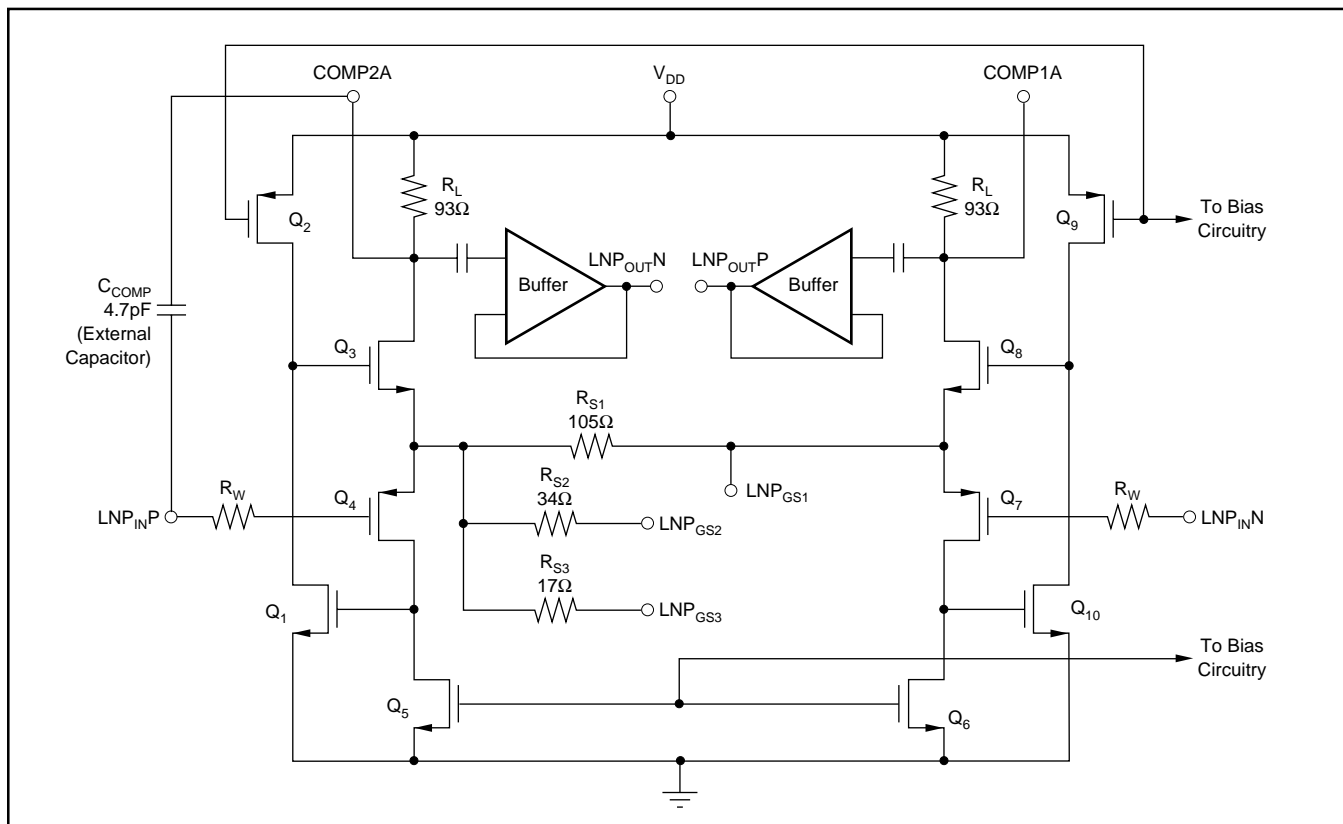
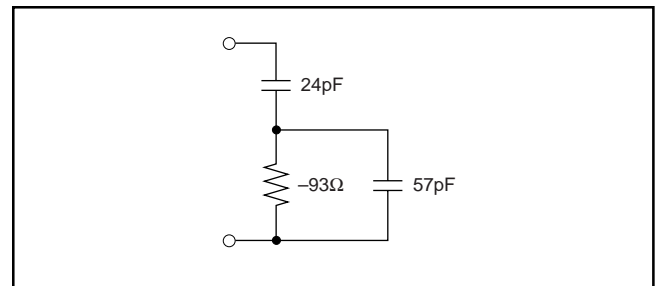

FIGURE 4. Schematic of the Low Noise Pre-amplifier (LNP).
FIGURE 11. VCA2613 Input Impedance.
The LNP is designed to achieve a low noise figure, especially when employing active termination. Figure 4 is a simplified schematic of the LNP, illustrating the differential input and output capability. The input stage employs low resistance local feedback to achieve stable low noise, low distortion performance with very high input impedance. Normally, low noise circuits exhibit high power consumption due to the large bias currents required in both input and output stages. The LNP uses a patented technique that combines the input and output stages such that they share the same bias current. Transistors Q₄ and Q₅ amplify the signal at the gate-source input of Q₄, the +IN side of the LNP. The signal is further amplified by the Q₁ and Q₂ stage, and then by the final Q₃ and R_L gain stage, which uses the same bias current as the input devices Q₄ and Q₅. Devices Q₆ through Q₁₀ play the same role for signals on the -IN side.
It is also possible to create other gain settings by connecting an external resistor between LNPG_{S1} on one side, and LNPG_{S2} and/or LNPG_{S3} on the other. In that case, the internal resistor values shown in Figure 4 should be combined with the external resistor to calculate the effective value of R_S for use in Equation (1). The resulting expression for external resistor value is given in Equation (2).
where R_{EXT} is the externally selected resistor value needed to achieve the desired gain setting, R_{S1} is the fixed parallel resistor in Figure 4, and R_{FIX} is the effective fixed value of the remaining internal resistors: R_{S2} , R_{S3} , or $(R_{S2} \parallel R_{S3})$ depending on the pin connections.
For greatest flexibility and lowest noise, the user may wish to shape the frequency response of the LNP. The COMP1 and COMP2 pins for each channel (pins 10 and 11 for channel A, pins 26 and 27 for channel B) correspond to the drains of Q_3 and Q_8 , see Figure 4. A capacitor placed between these pins will create a single-pole low-pass response, in which the effective R of the RC time constant is approximately 186Ω .
The VCA2612 and the VCA2613 are very similar in performance in all respects, except in the area of noise performance. See Figure 4 for a schematic of the LNP. The improvement in noise performance is because the input wiring resistor (R_W) of the VCA2613, see Figure 4, has been considerably reduced compared to the VCA2612. This brings the input noise of the VCA2613 down to $1.0\text{nV}/\sqrt{\text{Hz}}$ compared to VCA2612's $1.25\text{nV}/\sqrt{\text{Hz}}$. The input impedance at the gate of either Q_4 or Q_7 can be approximated by the network shown in Figure 11. The resistive component shown in Figure 11 is negative, which gives rise to unstable behavior when the signal source resistance has both inductive and capacitive elements. It should be noted that this negative resistance is not a physical resistor, but an equivalent resistance that is a function of the devices shown in Figure 4. Normally, when an inductor and capacitor are placed in series or parallel, there is a positive resistance in the loop that prevents unstable behavior.